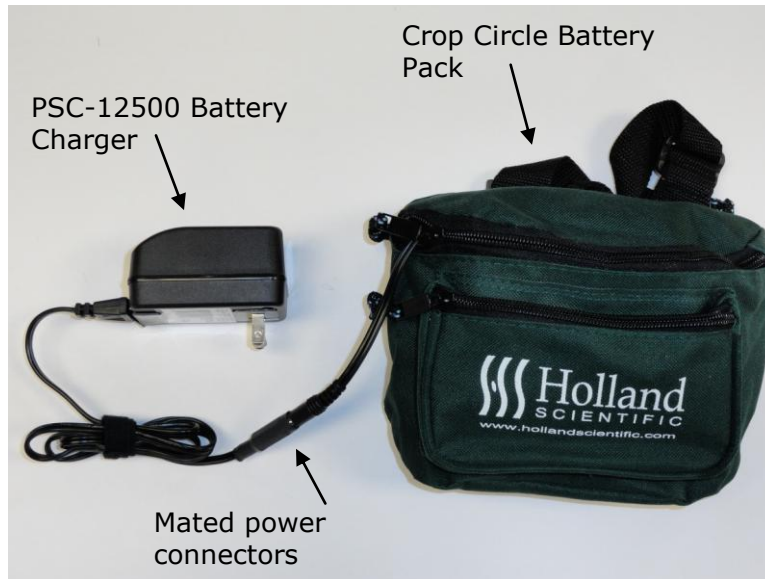

Figure 1. PSC-12500 battery charger connected to Crop Circle Battery Pack.
- 2) In a well ventilated room, connect the battery's 2.5mm power plug into the charger's matching 2.5mm socket by inserting the plug into the socket. Be sure that the plug seats completely into the plug (see Figure 1).